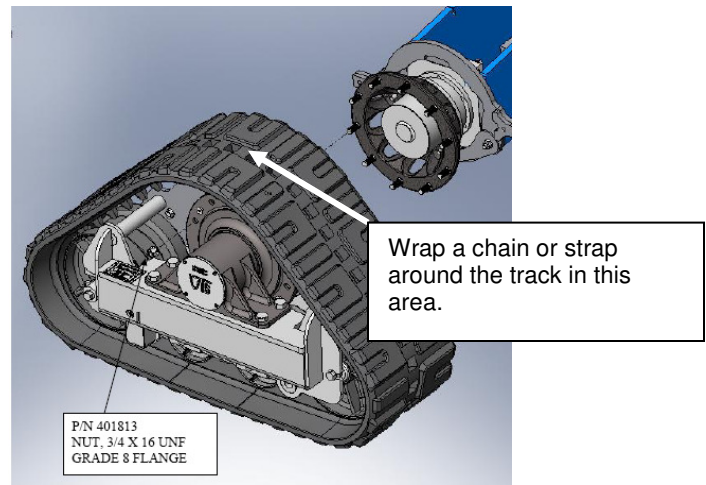

Fig. 4
- a. Use a strap or chain to hang the track on the tines of a fork lift. **Fig. 4**